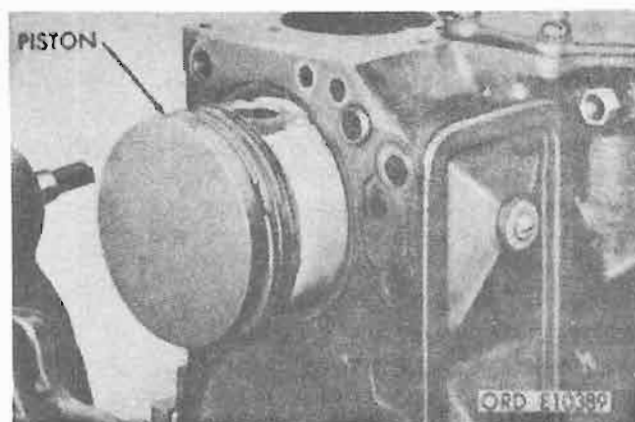

Figure 4-96. Connecting rod and piston assembly.
(1) Push connecting rod and piston assembly out from top of cylinder with handle end of hammer (fig. 4-96).